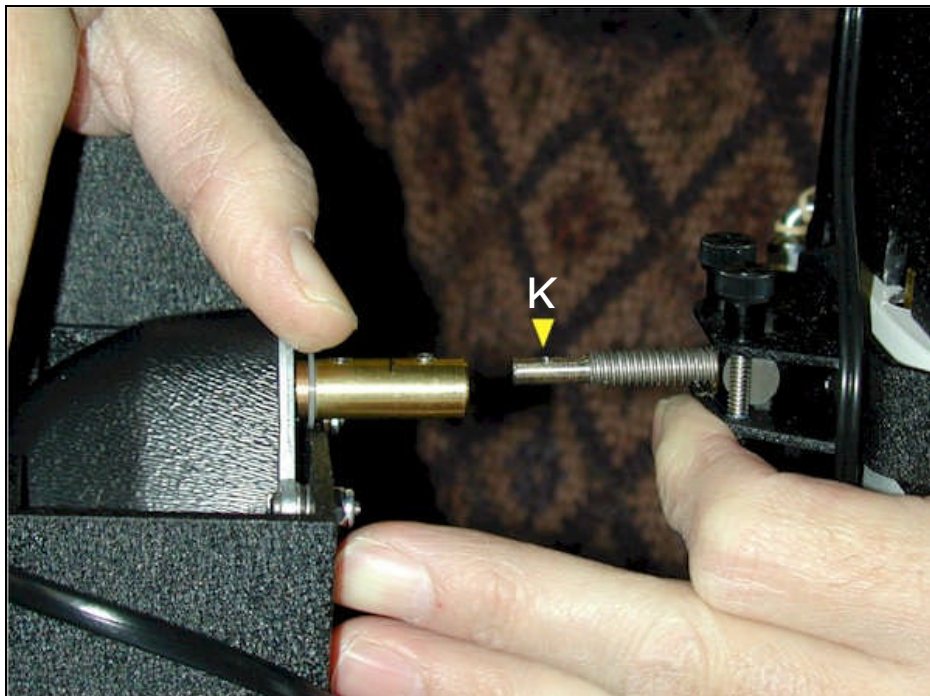

Figure 7
Connect the two motors to their corresponding optical tubes by bringing the optical tube up to where the drive screw of the motor is coming out of the ball. The drive screw has been immobilized in the ball by a rubber band. The screw is in a position that will be very close to where it should be when the telescope is in use. There are two screws (J), on either side of the ball, that allow you to tighten or loosen the bracket's grip on the ball to allow the ball to rotate and line up the screw for easier assembly. Line the threaded drive screw up with the brass coupler on the end of the motor shaft. Note the indentation in the flat of the screw shaft (K). Insert the shaft so the indentation is in line with the set screw and the set screw can seat in the indentation (Figure 7). This will prevent the shaft from coming out. You will have to tilt the motor a little bit to get the shaft into the coupler. The motors are mounted on small o-rings to prevent binding and to allow this tilt for proper assembly. Snip off the rubber bands after the motors are connected.